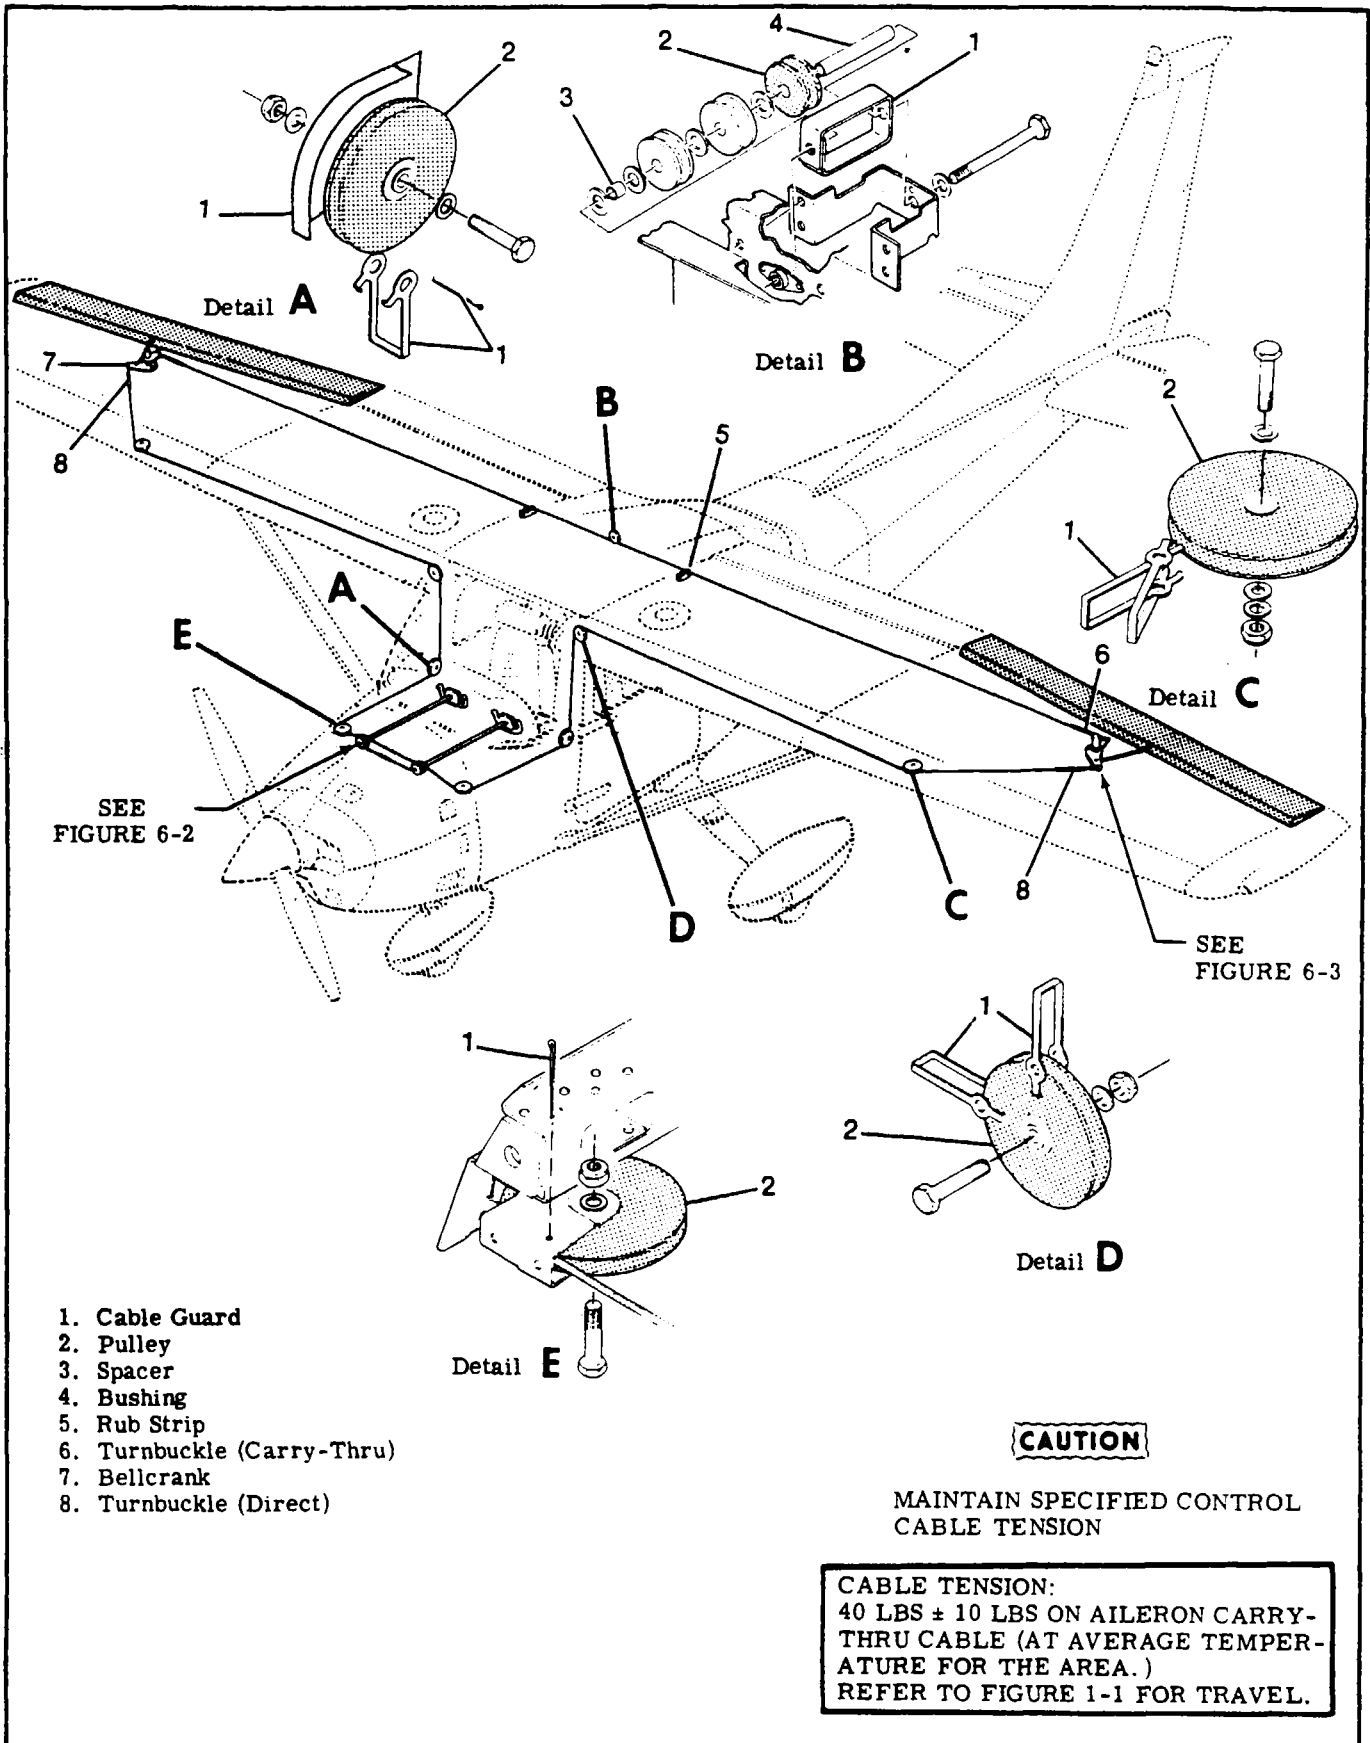

Figure 6-1. Aileron Control System
6-1. AILERON CONTROL SYSTEM. (See figure 6-1.)
8. Remove safety wire and relieve direct cable tension at turnbuckles (index 8, figure 6-1).
9. Remove safety wire and relieve interconnect cable tension at turnbuckle (30).
10. Remove safety wire and remove roll pin (28) through quadrant (24) and control tube assembly (15).
6-12. **CABLES AND PULLEYS.** (See figure 6-1.)